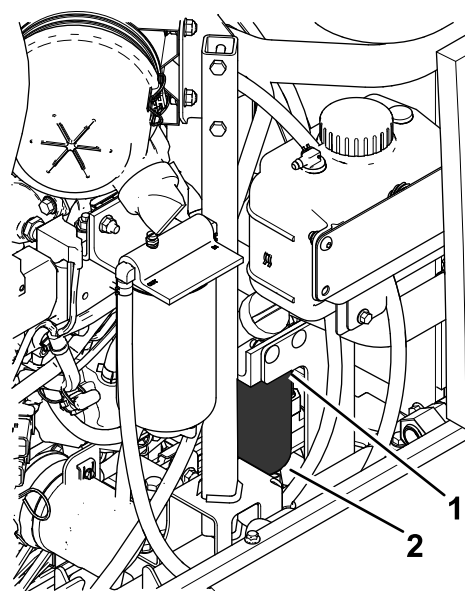

Figure 44
1. Clean the area around the fuel-filter head (Figure 44).
2. Remove the filter and clean the filter head mounting surface (Figure 44).